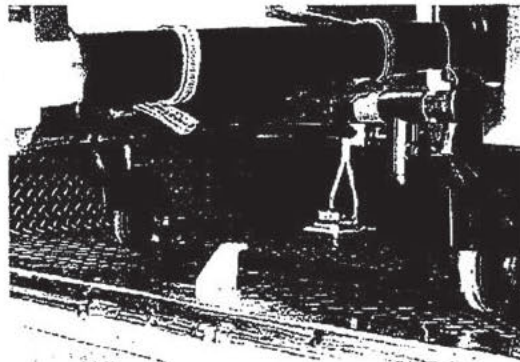

Figure 22
5. Push the cot forward until the load wheels are on the compartment floor and the safety bar passes the safety hook as shown in Figure 22.